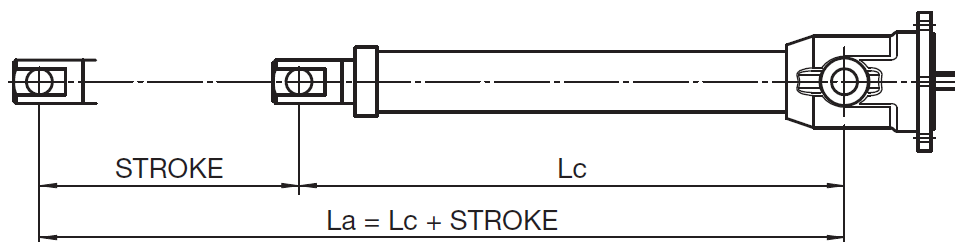

Figure 6.9 – "Lc" and "La" dimensions
- The activation positions of the two limit switches are the extreme travel positions Lc and La (see Fig. 6.9).
- Check if the extreme dimensions of the actuator “Lc” and “La” (see Fig. 6.9) are compatible with extreme positions of the plant component that has to be moved.
- Before to start relubrication, put the actuator in extended position (La – see Fig. 6.9)